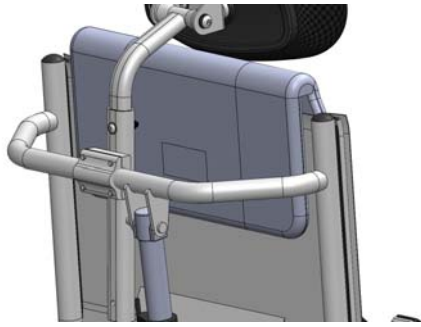

Figure 5-107
5.3.8.2.1 Use the #4 Allen Key wrench to loose the screw below the headrest. The Adjust the headrest to the desired position. (Figure 5-107, Figure 5-108, Figure 5-109)
5.3.8.2.2 Use the #4 Allen Key Wrench to loosen the screw below the headrest. There are four evenly spaced holes for incremental adjustments. The total range of adjustment is 50 mm. (Figure 5-111). Adjust the headrest to the desired position. (Figure 5-107, Figure 5-108, Figure 5-109, Figure 5-110)